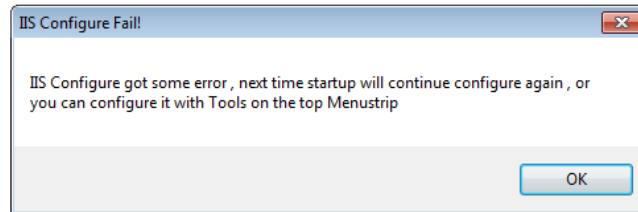

Figure C3
3. If the IIS installation failed, close any antivirus software and select "Tools > WebIIS Configure" within MSM Enterprise when opened for the first time, then select "Install". (Figure C3)